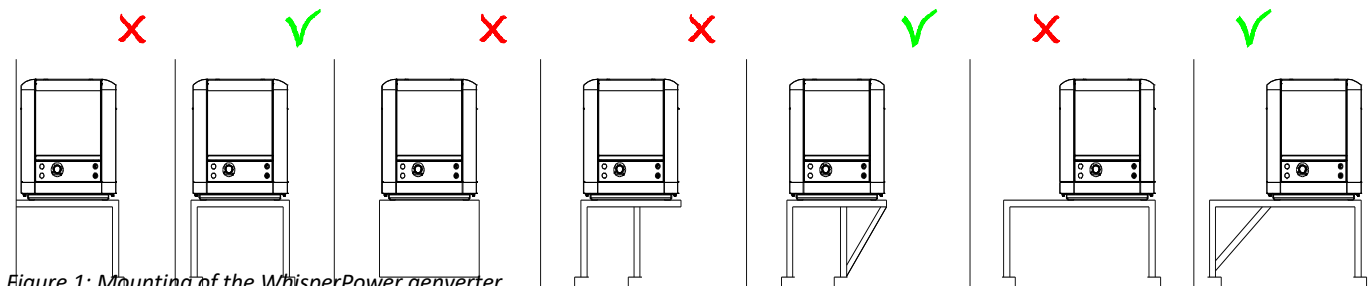

Figure 1: Mounting of the WhisperPower genverter.
- 5 Never connect the base of the genverter directly to walls or tanks (Figure 1).